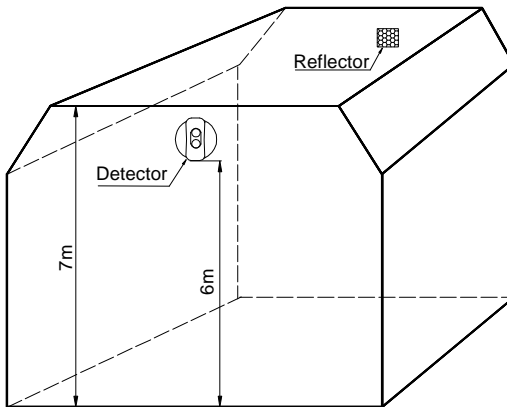

Fig. 4
(2) When space height is between 5m and 8m, the detector and reflector should be mounted on the two facing walls 0.5m to 1m from the ceiling, as shown in Fig. 4.